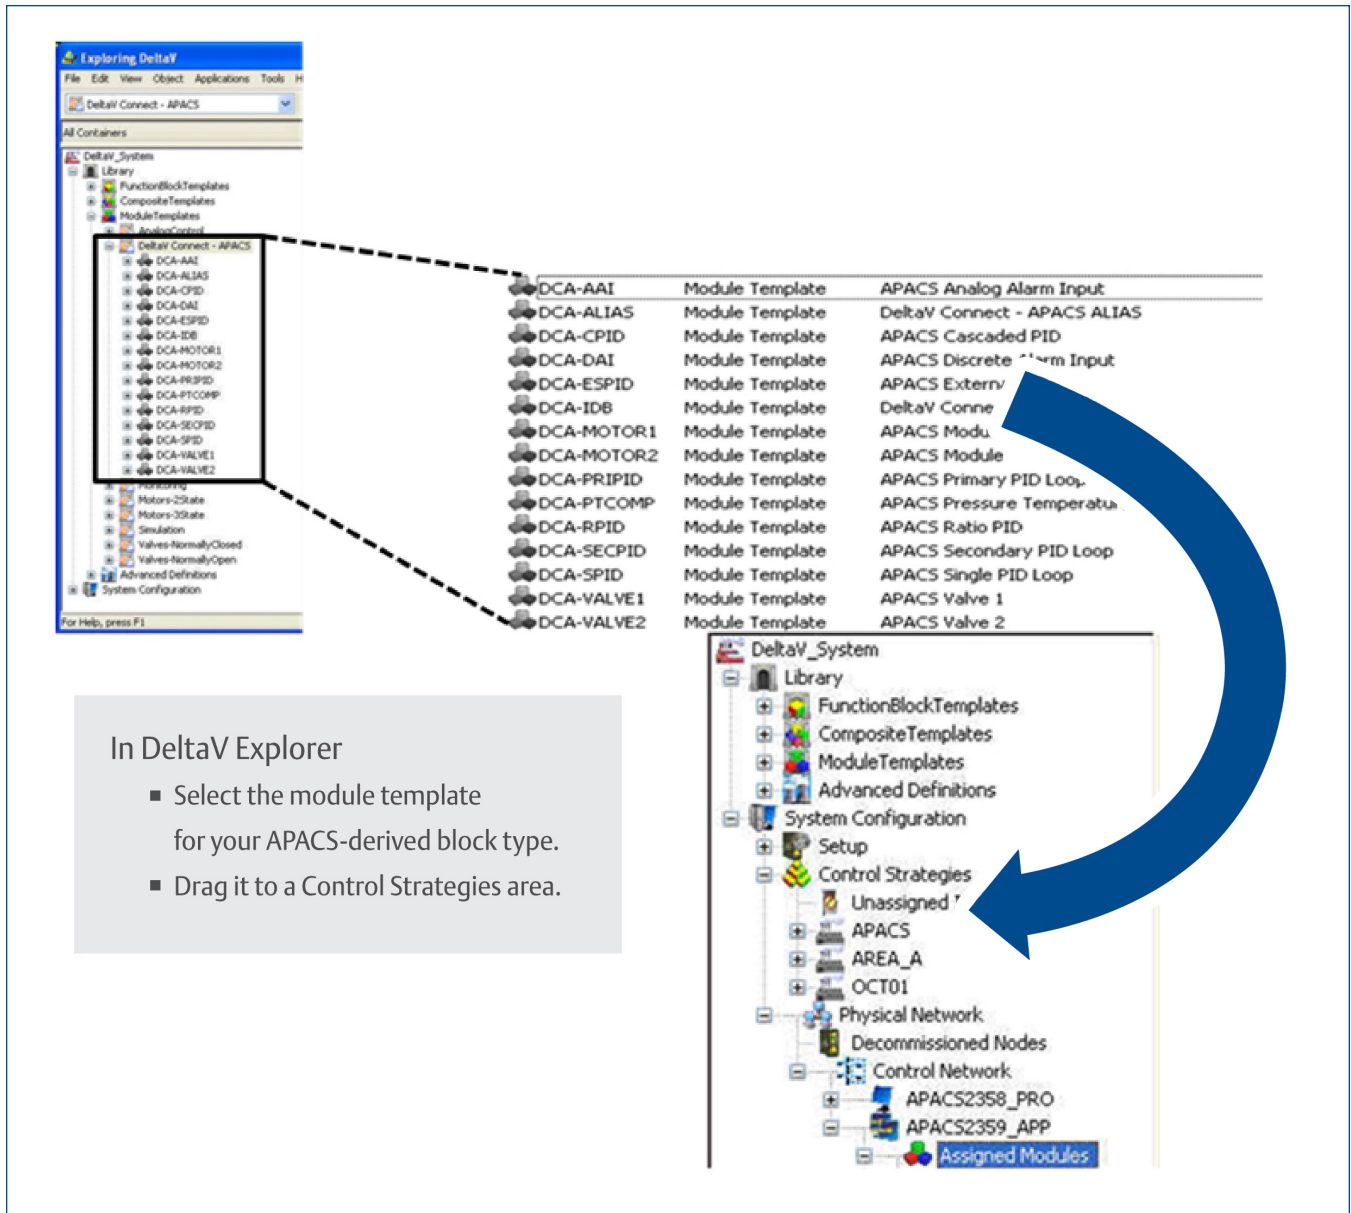

Figure 4. DeltaV Explorer view of interface module templates.
2. Drag the module to a Control Strategies Area. (See Figure 4).